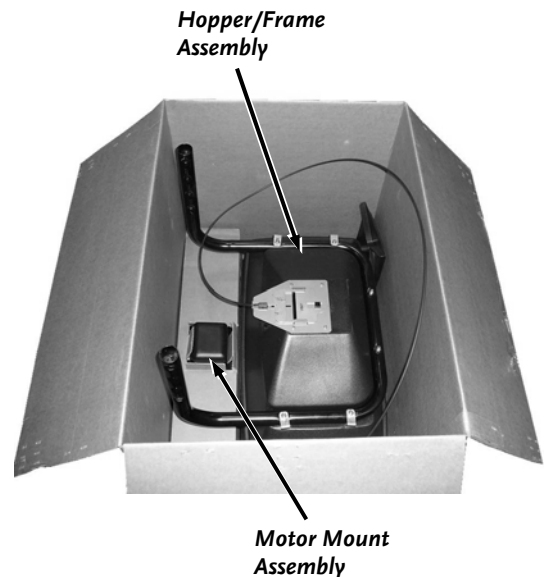

Figure 1
1. Open the shipping container by pulling the staples out with pliers and opening the top flaps (**Figure 1**).